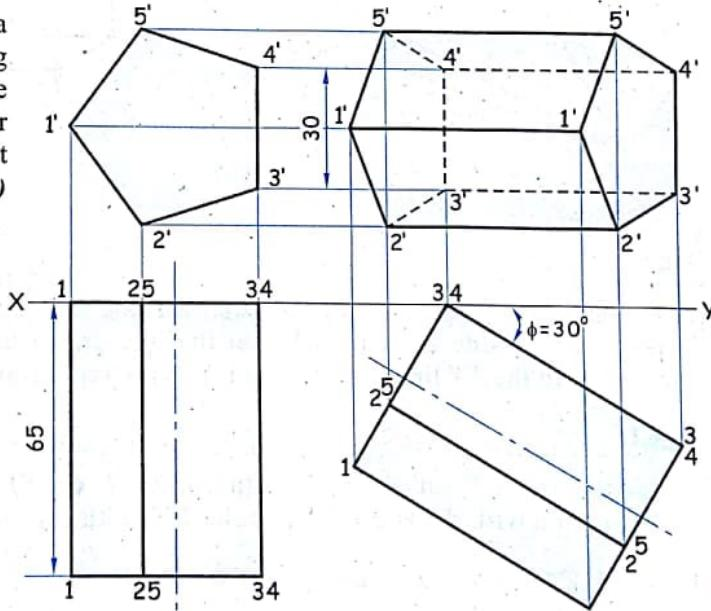

FIG. 10.45
**Solution :** Refer figure 10.45.